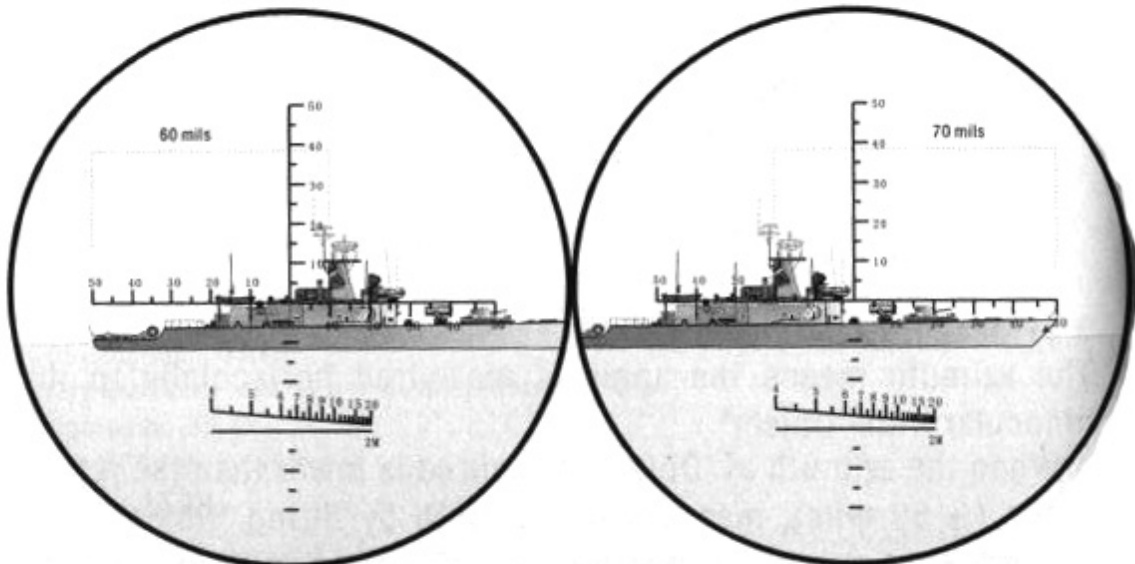

Fig. 21
B. When the azimuth of "Object" measured is larger than the reticle range ( $\pm 50$  mils), measure the azimuth by fitting vertically "Object" with reticle and summing the measurements of reticles. For an example shown in Fig. 21, the azimuth of "Cruiser" as "Object" is measured to be 130 mils (60 mils + 70 mils = 130 mils).